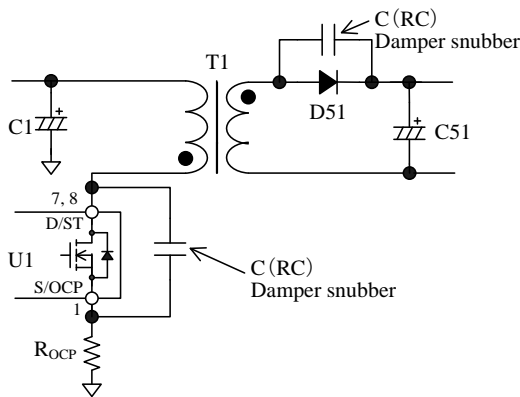

Figure 9-18 Damper snubber
In addition, if a C (RC) damper snubber of Figure 9-18 is used, reduce the capacitor value of damper